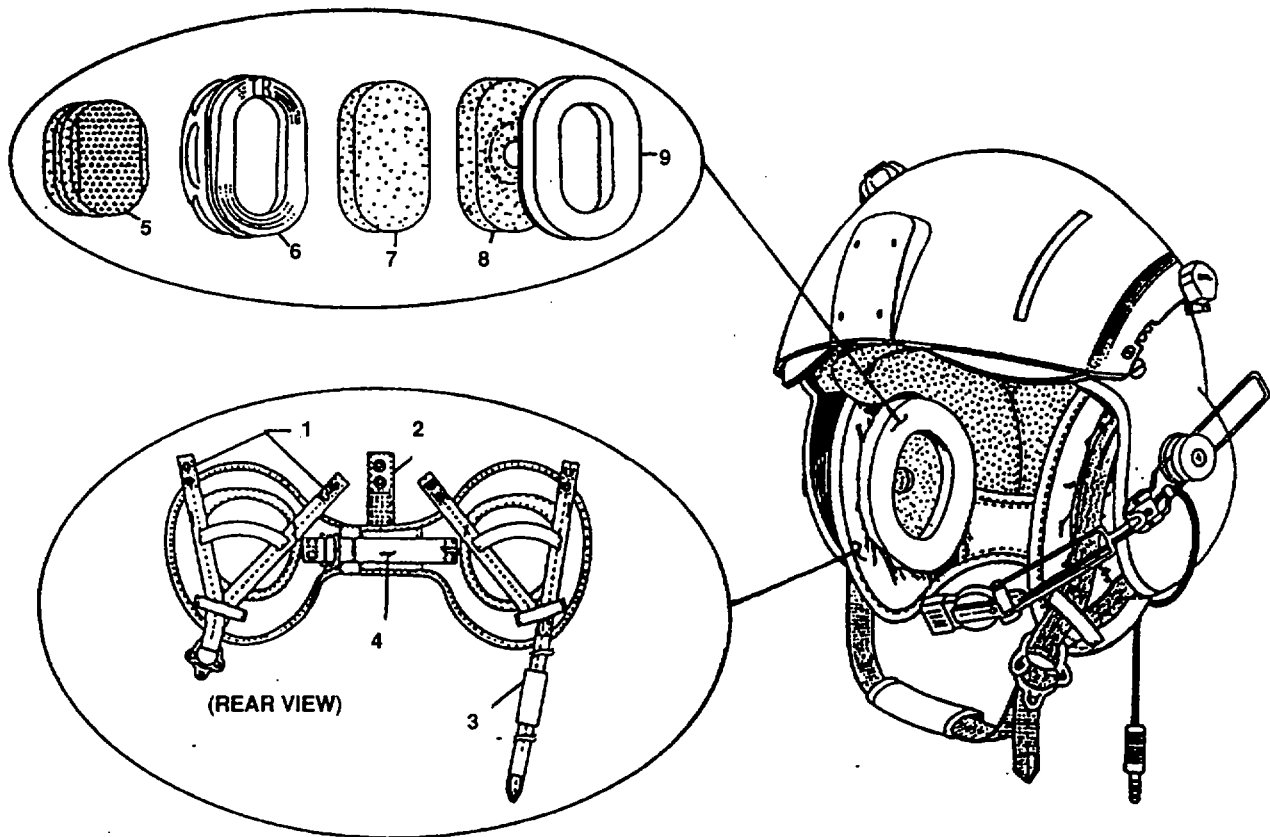

Figure 1-3. SPH-4B Retention and Earcup Assemblies
c. Retention Assembly (Figure 1-3). The yoke-style retention assembly minimizes forward rotation of the helmet and reduces chinstrap stretch during use, thus providing a high level of protection. This assembly consists of V-shaped straps (1) for vertical earcup adjustment, a rear hanger tab (2) for vertical adjustment of the nape area, an adjustable chinstrap (3) with a double D-ring buckle, and adjustable rear nape strap (4) with a hook-and-pile closure for individual sizing.
d. Earcup (Figure 1-3). The earcups protect hearing by reducing noise; they also flex to absorb lateral impact. The earcups can be rotated within the retention assembly to optimize fit. Each earcup (6) features a cushioned earseal (9). An earphone holder (8) and a filler pad (7) house the earphone inside the earcup. If further fitting is needed, spacer pads (5) can be installed on the back of each earcup.